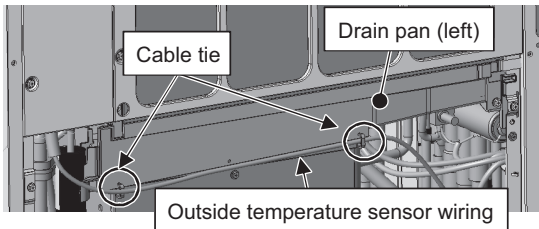

Figure 3
- (2) Remove the external temperature sensor wiring from the left drain pan by cutting the two cable ties. Unhook the pipe cover from the left drain pan. (See Figure 3.)
- (3) Remove the drain cover by unscrewing the screw and cutting the cable tie. (See Figures 3 and 4.)